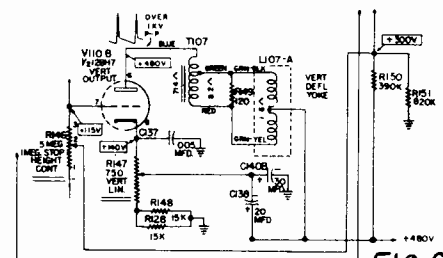

FIG. 2
- On Chassis 426 (Code Letter D or later) a wiring change was made in the vertical circuit to avoid excessive height by reducing the plate voltage on V110A (vertical oscillator tube). However, no parts were added or deleted. The change on the schematic is shown in Figure 2.